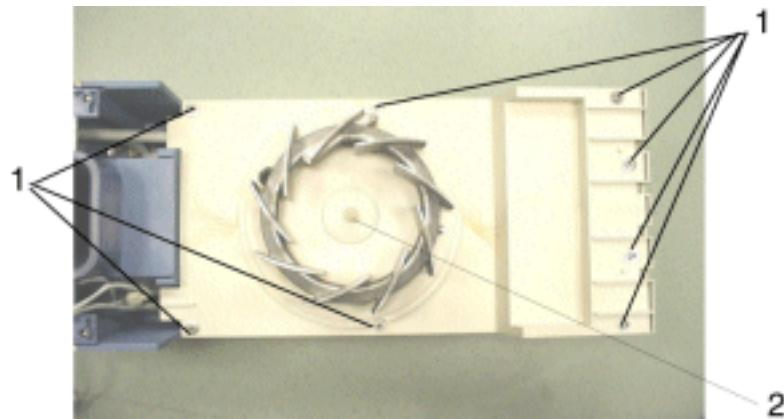

Fig. 140 Front view of the air heater
6. Carefully remove rubber sleeve (2) from shaft of fan motor, see Fig. 140.
7. Remove screws and washers (1), see Fig. 140.